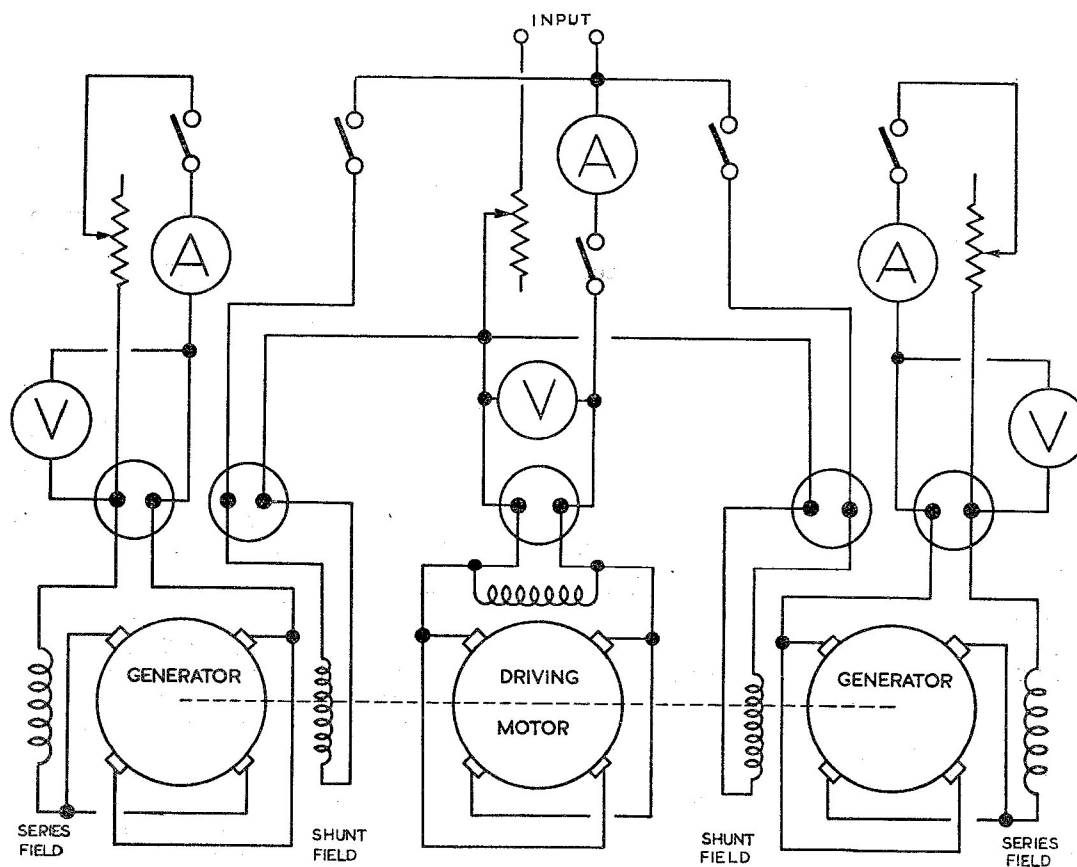

Fig. 1. Test circuit for motor generator, Type 13
14. Polarity of generators.—With the motor generator assembly wired according to the test circuit shown in fig. 1, connect the generator plugs in the following order:—field coil plug pin A to positive, and pin B to negative, supply. Run the motor generator set, and close the field switch. The polarity of the generator output must be plug pin No. 1 positive, and plug pin No. 2 negative. Open the field switch and repeat test for second generator.